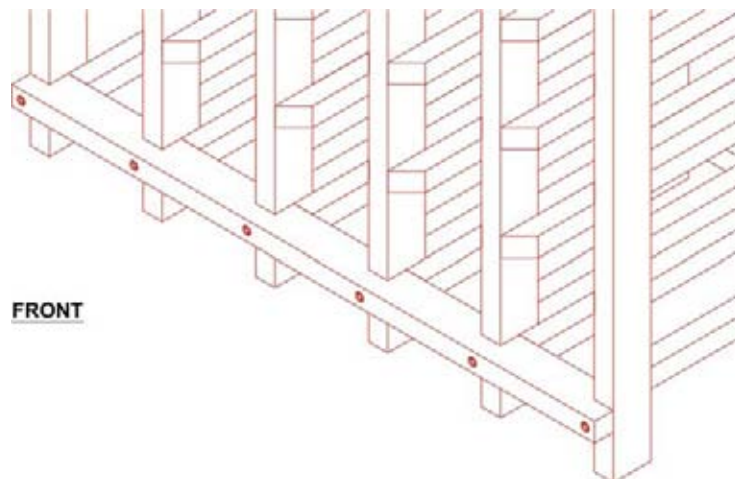

Figure 3
7. At this point all (6) ladders should be attached to the spacer bar (**Figure 3**). Set another spacer bar over the next spacer slat location tapping gently with a hammer to ensure a proper fit on all uprights.